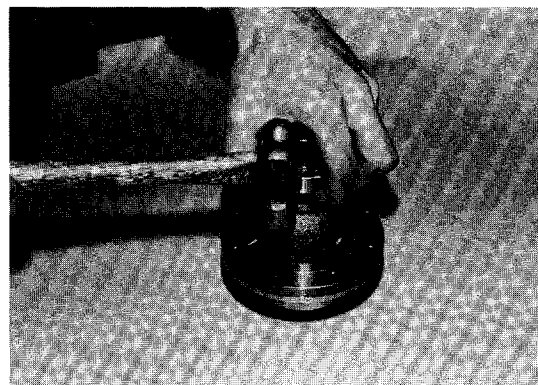

Figure 11-17
15. Remove eight hex bolts (24) which secure the ring gear (12) to the differential cage gear.
16. Remove ring gear (12). Retain dowel pin between the ring gear and differential cage for reassembly.
17. Separate housing of differential cage gear. If necessary, insert two of the hex bolts (24) back into differential gear unit. While holding slightly above bench, tap lightly on hex bolt head and differential cage gear will separate (Figure 11-17). Remove bolts (24).